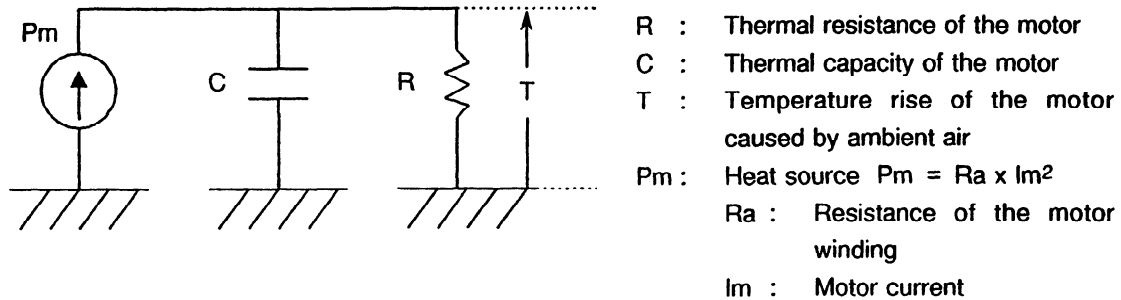

Fig. 7.3.3 (a)
In this Fig. 7.3.3(a), C and R are a constant. Because motor current I_m is always measured in the servo software, it is possible to predict the rise in temperature (T) of the motor by calculating the heat generation (P_m) of the motor.